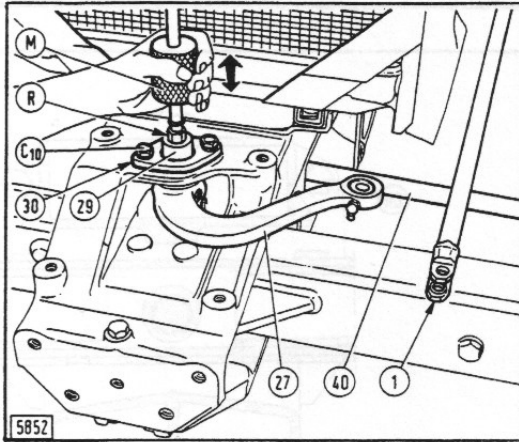

FIG. 12-23 Removing steering lever (27) pivot (29). (C10) Flange (30) cap screws. (M) Sliding-weight type puller, (1) Drag link, (30) Upper bushing flange.
Disconnect steering lever (27, Fig. 12-23) from drag link (1) and from tie-rods (40) using appropriate puller.